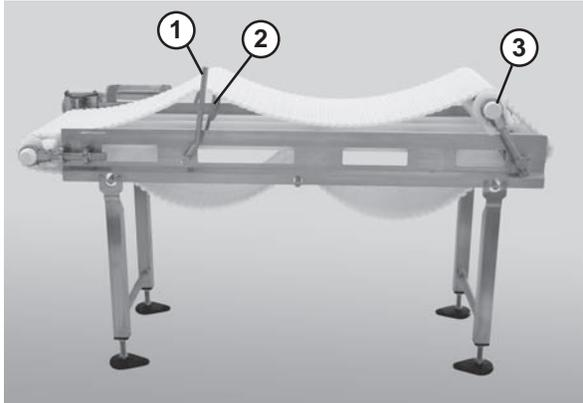

Figure 49
2. Use the lifter handle (Figure 49, item 1) to raise the lifters (Figure 49, item 2) and raise the tip up tail (Figure 49, item 3).